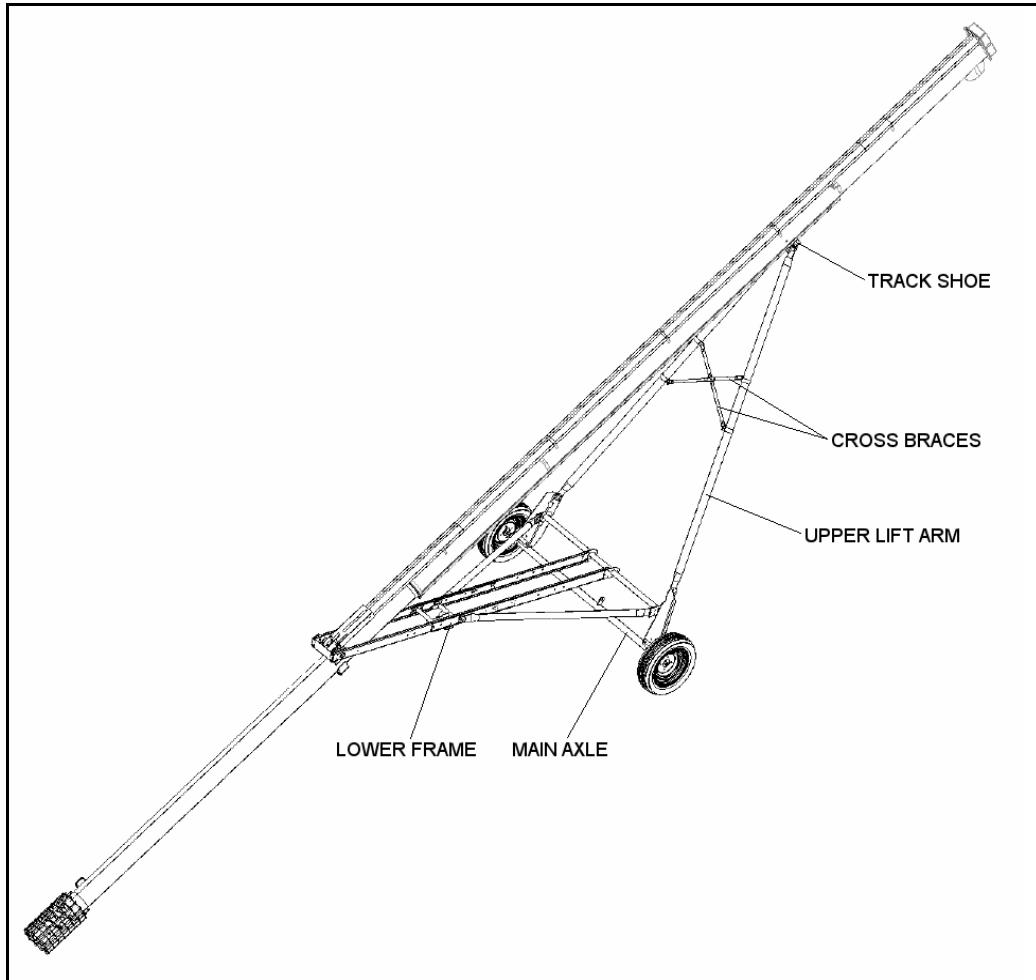

Figure 3.16 Frame Assembly
10. Attach upright brackets to main axle with six 7/16" x 1-1/4" bolts and locknuts (Figure 3.16).
- **For auger models 841, 846, 851, and 1041 only:** install crossbraces between the upper lift arms with four 3" tube clamps and four 1/2 x 1-1/4" bolts and locknuts. Use a 1/2 x 1-1/4" bolt and locknut for the centers (where cross-members intersect) (Figure 3.16).